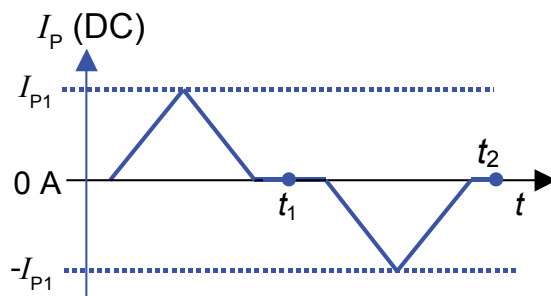

Figure 1: Current cycle used to measure magnetic and electrical offset (transducer supplied)
- or in a known magnetization state, like in the current cycle shown in figure 1.
Using the current cycle shown in figure 1, the electrical offset is: